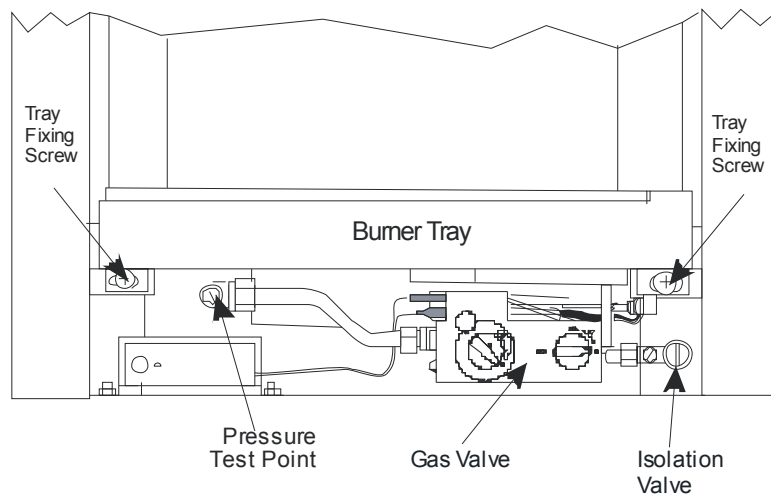
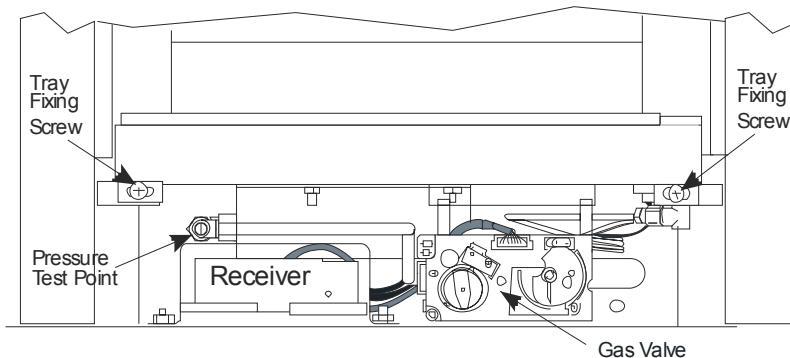

Figure 44 - Model with Mertik GV34 Valve
Figure 45 – Model with Mertik GV60 Valve (Total Control)
1. Remove the two burner fixing screws located under the front corners of the tray (see **Figure 44** or **Figure 45** on **Page 26**).